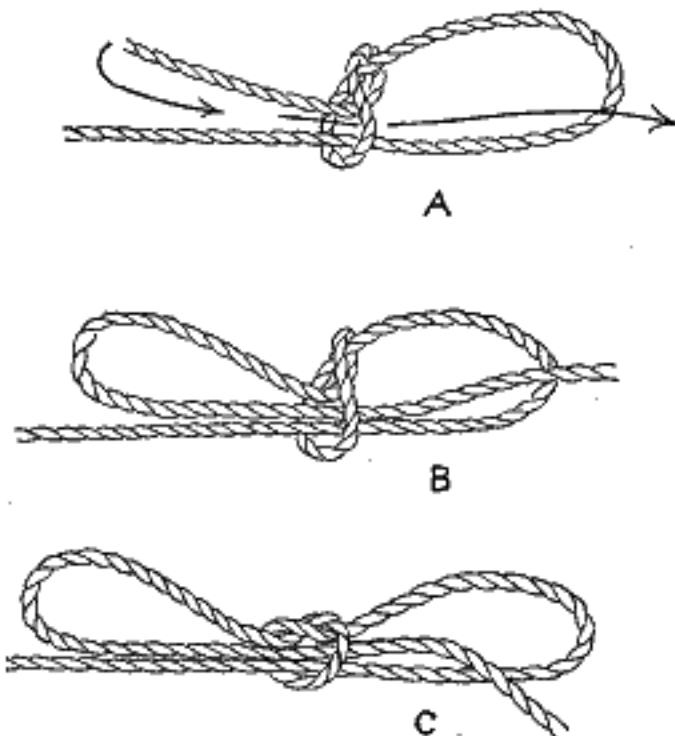

FIG. 329.—The Tom fool's or double-bow knot.
**390. The Tom fool's or double-bow knot** (Fig. 329) is sometimes called a trick knot, although it is very useful. It is often used for holding hogs while ringing. One loop is slipped over the hog's upper jaw, and the standing end of that loop is fastened to a post. The knot is untied, and